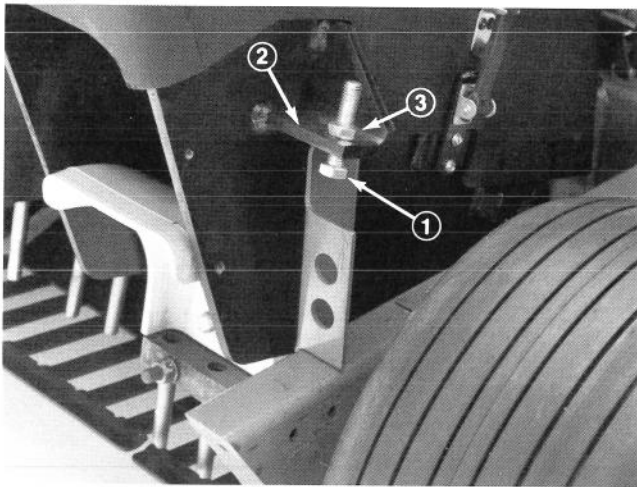

Figure 19
2. Loosen jamnut on top of adjusting bracket (Fig. 19).
3. Thread adjusting screw into bracket to increase coring depth and out to decrease depth (Fig. 19).
4. Maximum recommended coring depth is achieved when distance from end of screw head to bracket is $11/16''$ (.69) (Fig. 19).